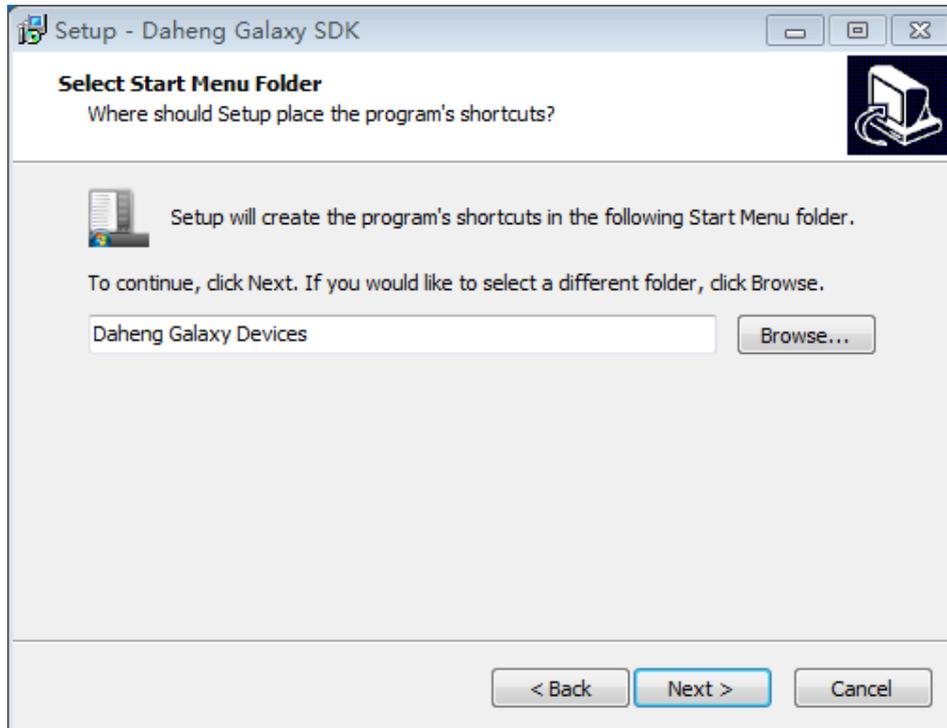

Figure 2.2-13
(16) Click next, Select the installation directory for the program shortcut. As shown in figures 2.2-13: